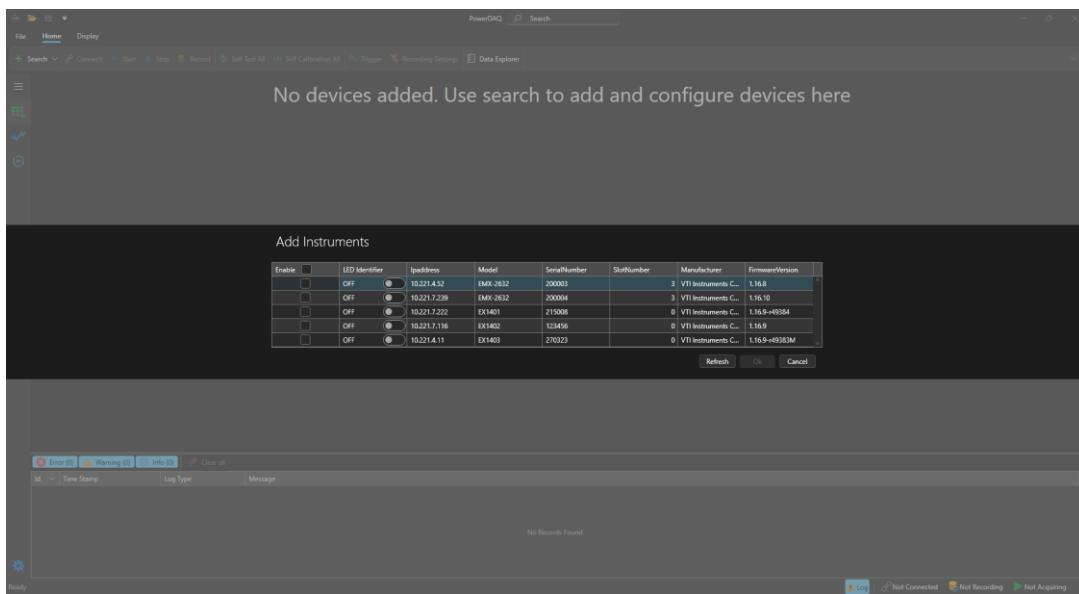

Figure 17. Auto Search Results
3. A list of devices found from running Auto Search will be displayed as shown in Figure 17.